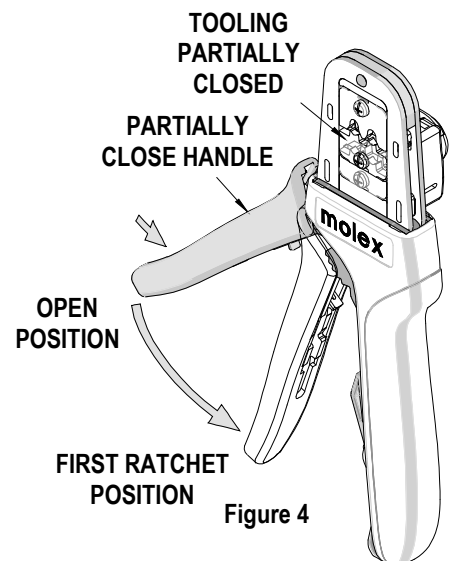

Figure 4
4. Release the locator button, allowing the locator to return to the crimping position. See Figure 4.
5. Close the tool handle until the first ratchet position engages. See Figure 4.